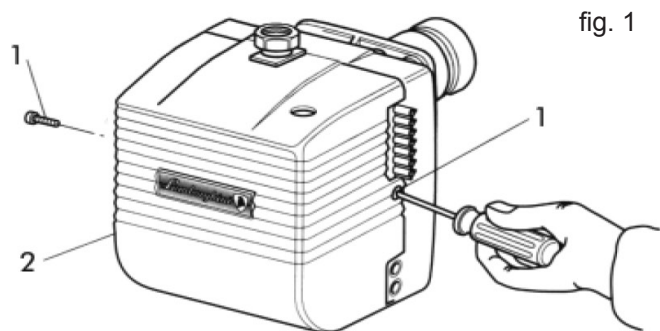

fig. 1
To gain access to the main components, remove the cover, as shown in (Fig.1). Combustion head maintenance should be made as follows:
- Close the gas cock and disconnect the gas train. Unscrew the screws 1 and remove the cover 2 (fig.1).